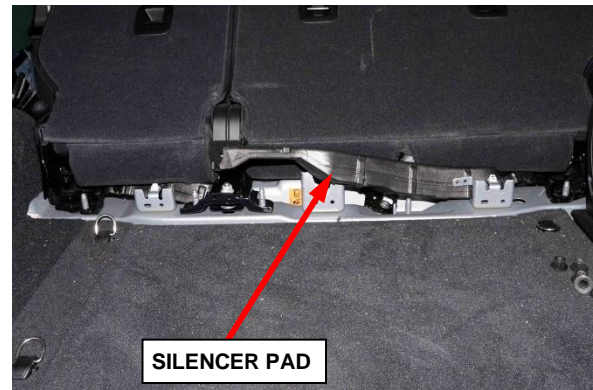

Figure 28 – Silencer Pad
51. Remove silencer pad (Figure 28).
69. Install the silencer pad (Figure 28).